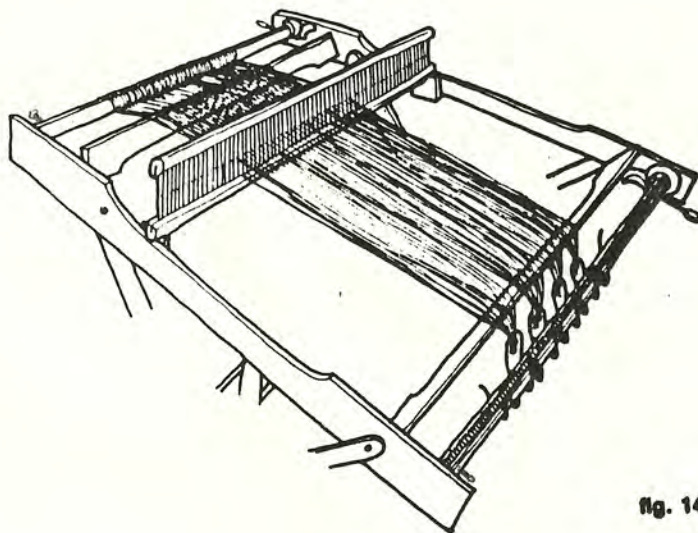

fig. 14
16. Tie the end of the cord around the first 2 or 3 dents on the cloth beam. Bring it under the cloth beam, over the breast beam and pass it through the first warp bundle. Bring it back over the breast beam, under the cloth beam, and around the next group of dents (fig. 14). Continue across until all warp bundles are lashed. Try to maintain some tension on the cord while lashing, and *do not allow any warp bundles to touch the cloth beam.* Tie the end of the lashing cord to the last 2 or 3 dents on the cloth beam.